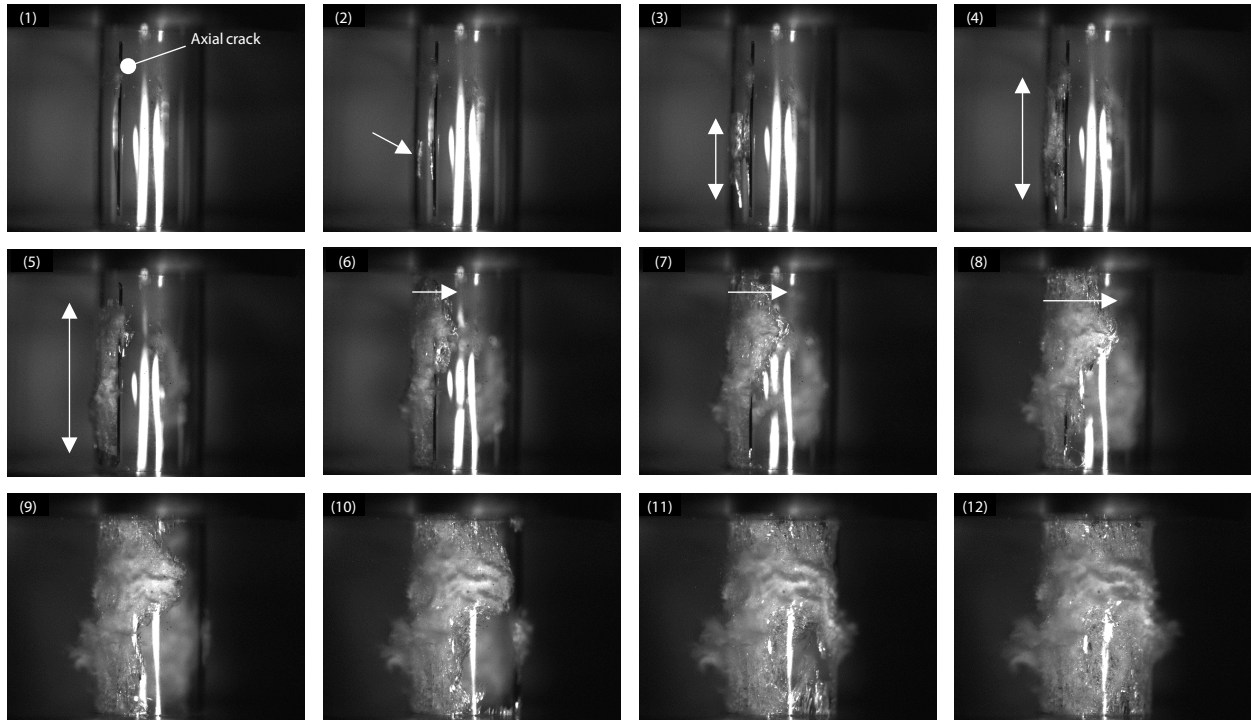

Fig. 3 Condition of Fracture Observation (Time Interval Between Images: 2 μ s)
Fig. 3 shows the recording results of fracture observation in the compression test of the glass tube. In image (1) in Fig. 3, an axial crack has already initiated, and in image (2), a new crack different from the one in image (1) has also occurred. In images (3) to (5), axial propagation of the crack in image (2) was observed. Subsequently, in images (6) to (8), a similar crack propagated around the circumference of the glass tube, and in images (9) to (12), the condition when the tube shatters into pieces was observed.